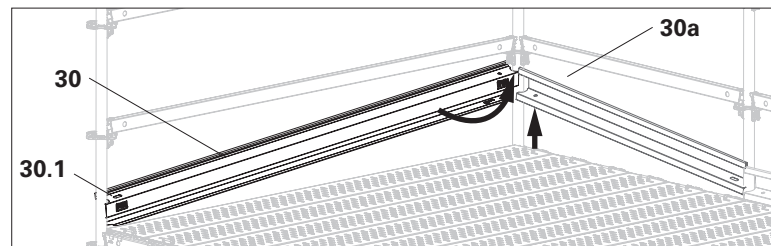

Fig. A5.04b
3. Insert Toe Board UPY (30) from the outside-left first of all using the large tube cut-out (30.1).
4. Raise the Toe Board UPY (30a) which has already been mounted in the bay. (Fig. A5.04b)
5. Place the Toe Board UPY (30) on the second tube and simultaneously insert it into the trapezoid box (30.6) of the toe board in the corner bay.